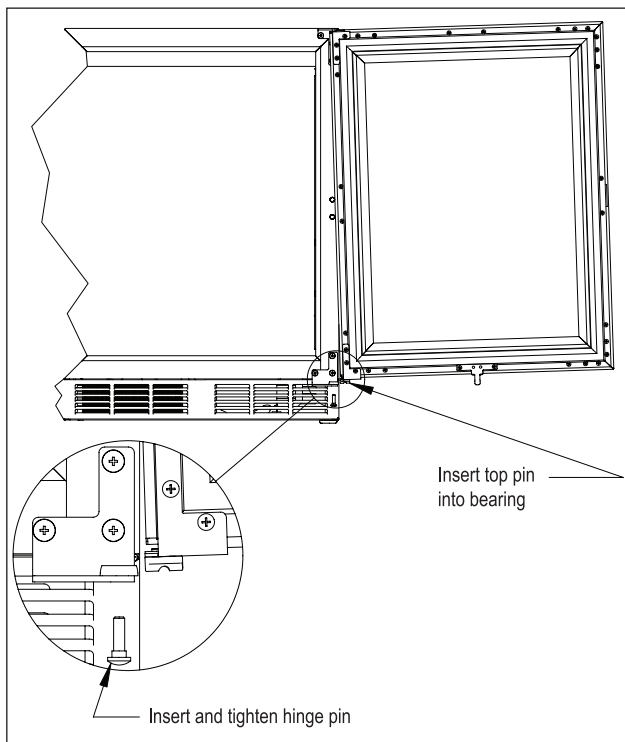

Figure 16. Installing Door
13). Lift the door assembly and insert the top pin into the bearing. Move door toward cabinet and align the V-blocks (Fig. 16).